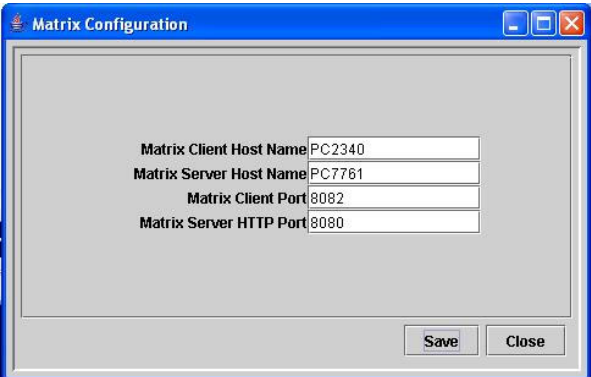

FIG. 36
1. Before rebooting, navigate to **Start / All Programs / Graco / Matrix** and select **Edit Matrix Client Network Settings**, where you will specify the Matrix Client PC host name and the Matrix Server host name or IP address (see FIG. 36). This step is done for each client in the system.
You just installed the Matrix client on a PC in the shop; the network has a DNS server. The client's host name (computer name) is PC2340. The Matrix server's host name is PC7761. You would configure the client's network settings as shown in FIG. 36.